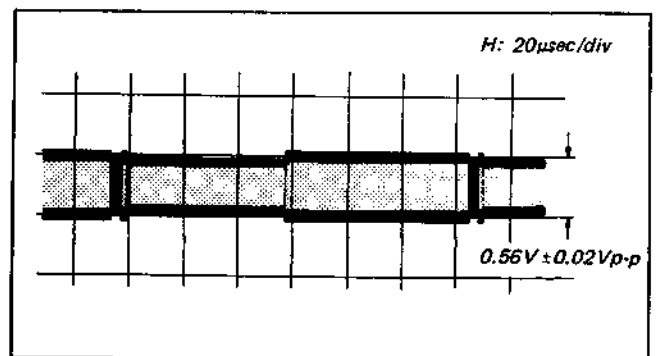

Fig. 4-4-6. Level adjustment of burst signal
- (5) Connect the oscilloscope to pin 1 of IC5.
- (6) Adjust RV6 so that the average output level is 0.56 V ± 0.02 Vp-p. (See Fig. 4-4-6.)